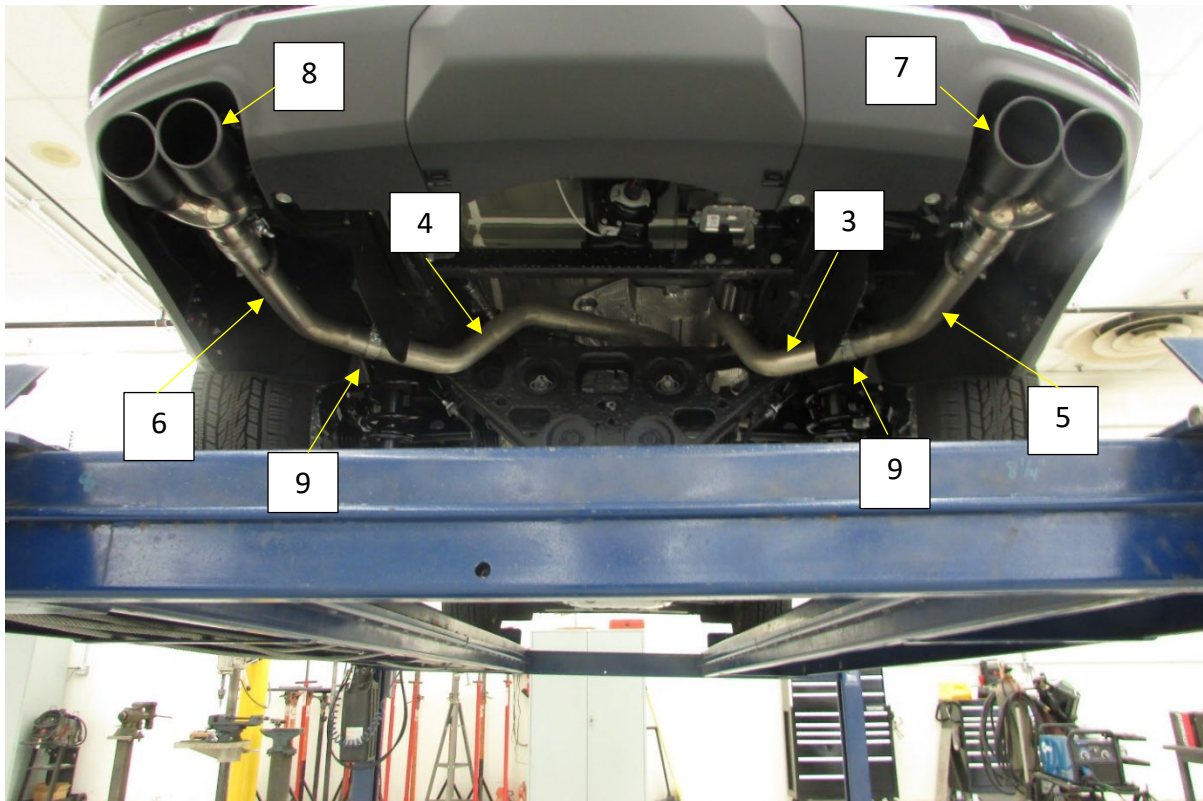

Figure. 7
9. Install the left muffler outlet pipe (4) from the muffler side, over the axle and across to the left side frame rail. **Fig.7**
10. Install the Right muffler outlet pipe (3) from the muffler side, over the axle and across to the right-side frame rail. **Fig.7**
11. Install the right pipe (3) into the muffler outlet, Install the hanger rod into the isolator and tighten the clamp to allow for adjustment.
12. Install the left pipe (4) into the muffler outlet, Install the hanger rod into the isolator and tighten the clamp to allow for adjustment.
13. Install a supplied 2.5" band clamp (9) on to the expanded and notched end of the left (6) and right (5) tail pipe.
14. Install the tail pipes on to the muffler outlet pipes (3)(4), Tighten the clamps to allow for adjustment.